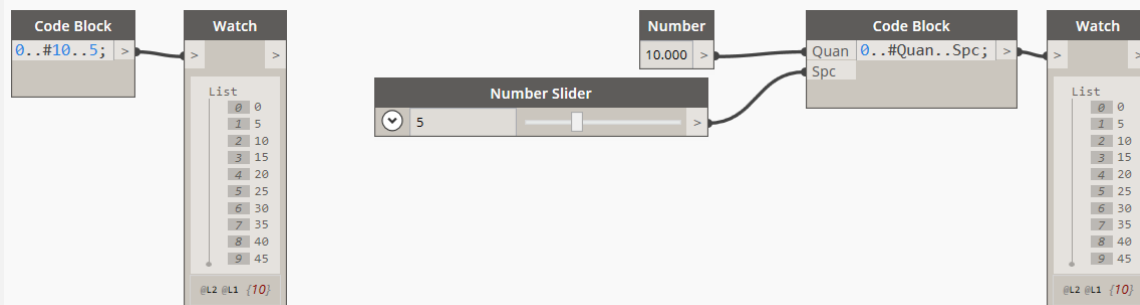

Figure 43
**Note:** The **Range** and **Sequence** nodes provide simple ways to create these lists, but there are many more possibilities if you use Design Script code in a Code Block. The bonus file noted in the “Bonus Materials” topic above gives some examples. If you wanted to replace this Sequence with a Code Block, you would type something like: **1..#10..5**. If you substitute the numbers with text, they will become variables and create input ports. So: **1..#Quan..Spc** would be a sequence from 1 to a variable quantity (represented by: **Quan**) and with a step of **Spc** (see Figure 43).